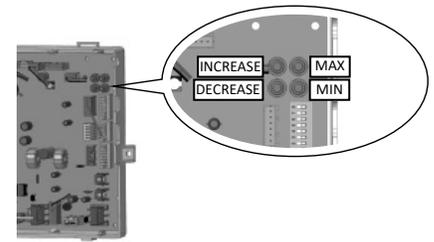

Figure 13: Max button on computer board.
- Check the manifold pressure during minimum combustion, press and hold the "MIN" button on the computer board (See Figure 13).
5. Press and hold down the “MIN” button on the computer board. See Figure 13.